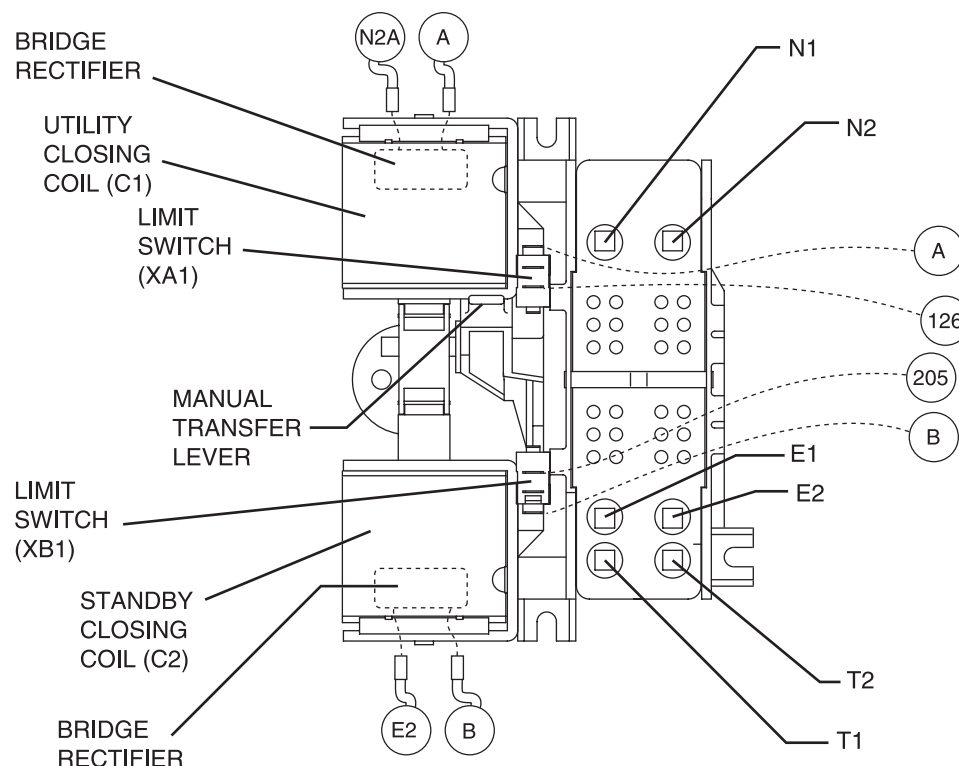

Figure 1. The "V-Type" Transfer Mechanism
6. Locate on the standby closing coil the terminal that Wire B is connected to. (Figure 1, previous page). Connect the other meter test lead to this terminal. Generator line to line voltage should be indicated. If generator voltage is NOT indicated, proceed to Step 7.
7. With Wire E2 still connected to one test probe, connect the other meter test lead to Wire 205 on Limit Switch XB1(see Figure 1 on previous page). Generator line to line voltage should be measured.